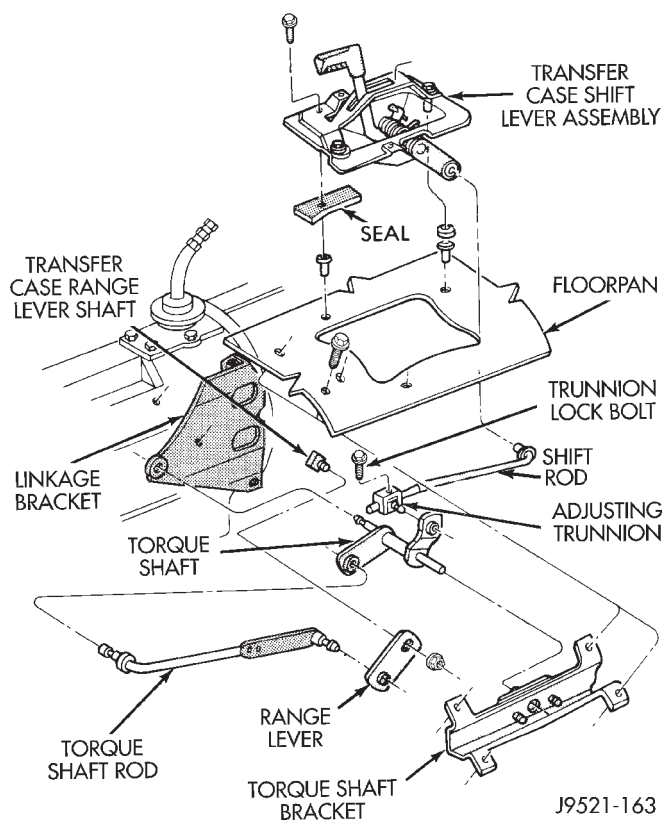

Fig. 87 Shift Linkage
- (1) Shift transfer case into 4L position.
- (2) Raise vehicle.
- (3) Loosen lock bolt on adjusting trunnion (Fig. 87).
- (4) Be sure linkage rod slides freely in trunnion. Clean rod and apply spray lube if necessary.
- (5) Verify that transfer case range lever is fully engaged in 4L position.
- (6) Tighten adjusting trunnion lock bolt.
- (7) Lower vehicle.